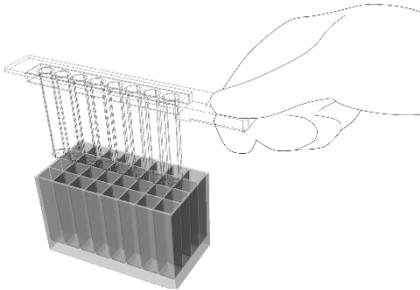

Figure 6. Mixing of content in **column 2** using the rod cover only.
14. Using only the rod cover, mix the contents of **column 2**, by slowly lifting the rod cover to the top of the solution and returning the rod cover to the bottom of the wells 10 times for 1 minute (Figure 6).